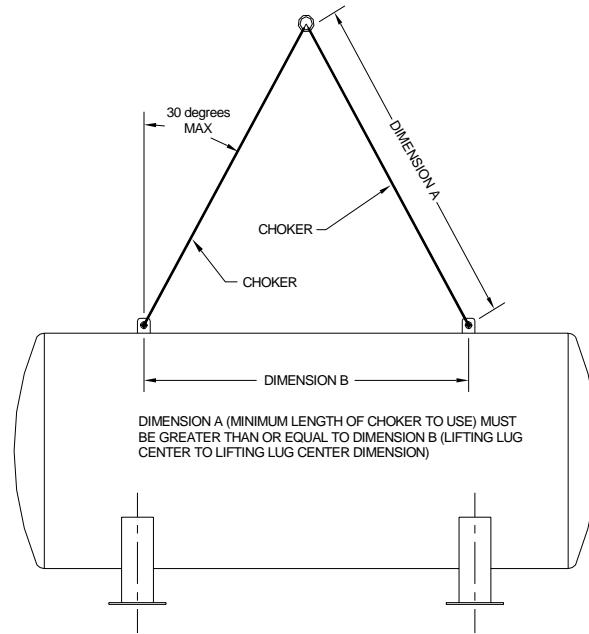

Figure 4-1
- B. The storage unit should be unloaded by a crane using cables and spreader bars, unless it can be rolled on dollies or pipe rollers. Lifting lugs are located on top of the vessel. (See figure 4-1)